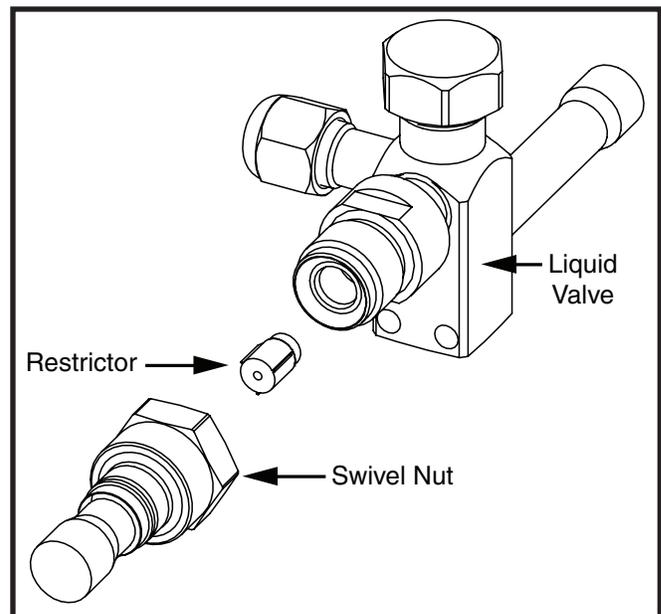

Figure 2. Liquid Valve, Restrictor, & Swivel Nut Adapter
If the outdoor unit has the liquid valve shown in Figure 2 then the restrictor is located inside the swivel nut connection of the liquid valve and not inside the outdoor
4. Insert the new orifice into the valve body, with the rounded end facing into the valve. See Figure 2, \(page 4\).